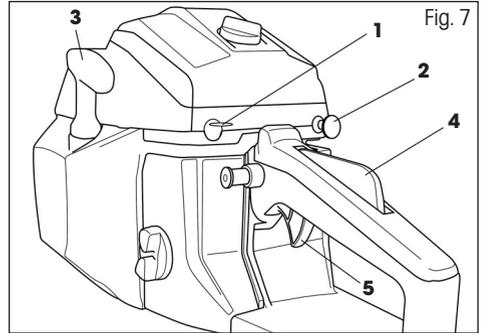

Fig. 7
1. Set the main power switch to the top position (see Fig. 7, point 1)
2. Pull out the choke lever (Fig. 7, point 2) but do not touch the throttle trigger.
4. At this point, push the choke lever back in (Fig. 7, point 2) and start the engine by repeatedly pulling on the starting cord.
- ☼ To increase speed, first use the palm of your hand to push down the throttle safety switch (Fig. 7, point 4) and then use your finger to pull on the throttle trigger (Fig. 7, point 5)
- ☼ Release the throttle trigger (Fig. 7, point 5) and switch the main power switch to the "Stop" position (Fig. 1, point 1).